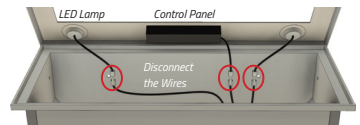

Figure 3
- Flip the stainless steel Panel open on the longest side, locate and disconnect the Wires for the LED Lamps and the Control Panel. **(Figure 3)**